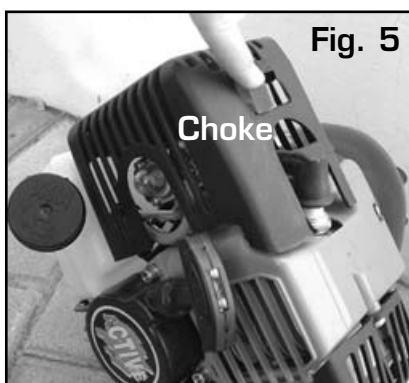

Fig. 5
12. Set the CHOKE LEVER to the CHOKED (UP) position (Fig. 5).
16. Once the engine has started, quickly move the CHOKE LEVER into the RUN (DOWN) position. (Fig. 5).